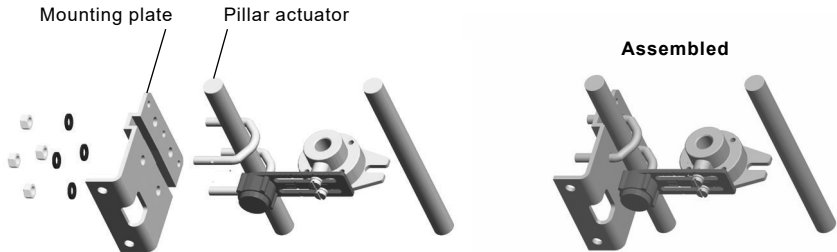
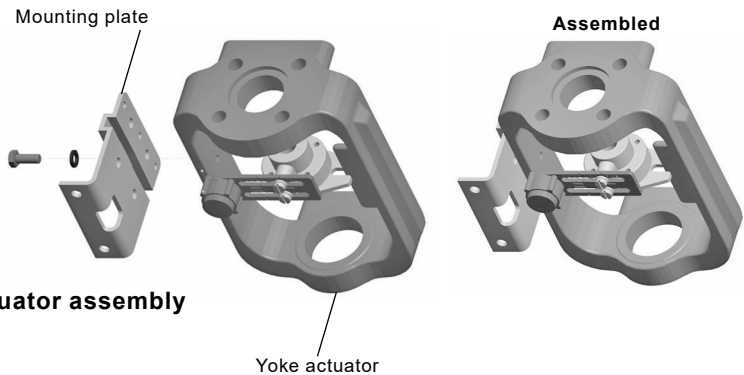

Fig. 29 Pillar actuator assembly
Fig. 30 Yoke actuator assembly
- 5.2.4** Loosely attach the positioner mounting plate to the actuator as shown in the following pictures: for the pillar actuator (Figure 29), and for the yoke actuator (Figure 30).
5.2.7 Adjust the vertical position of the SP500 positioner and mounting plate assembly, by sliding it up or down on the pillar style actuators, ensuring that the positioner is roughly centred on the actuator/valve stroke (Figure 30).